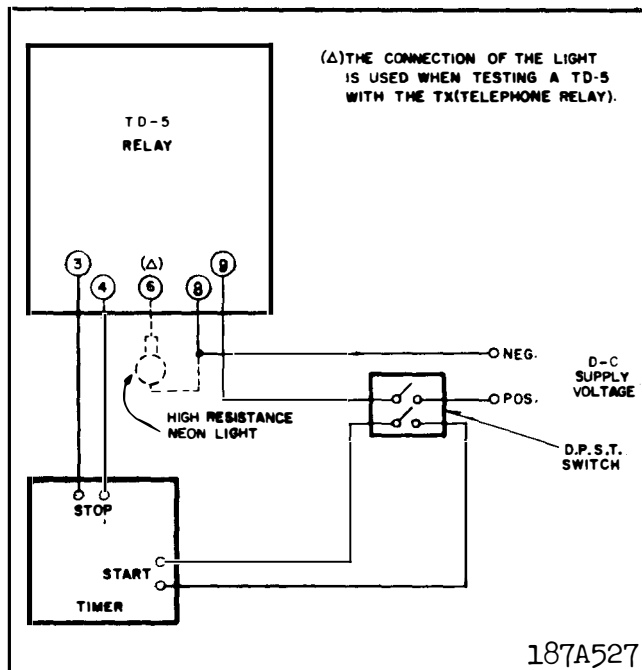

Fig. 4 Test Circuits for Type TD-5 Relay.
2. Check the reference voltage circuit. This is done by measuring the d-c voltage across the silicon power regulator, Z. Connect the d-c voltmeter positive terminal to the rear terminal of RS and the negative terminal to relay terminal 8. Apply rated voltage per the test circuit diagram, Figure 4. The Zener voltage should be between 11.0 and 13.0 volts for 24/32 volt relays, between 21.5 and 24.5 volts for 48/125 volt relays, and between 50 and 58 volts for 250 volt relays.
circuit shown in Figure 4, taken at 25°C. and rated voltage, will be within four milliseconds of its setting for settings of 0.2 seconds or less. For settings above 0.2 seconds, this accuracy will be  $\pm 2\%$ .